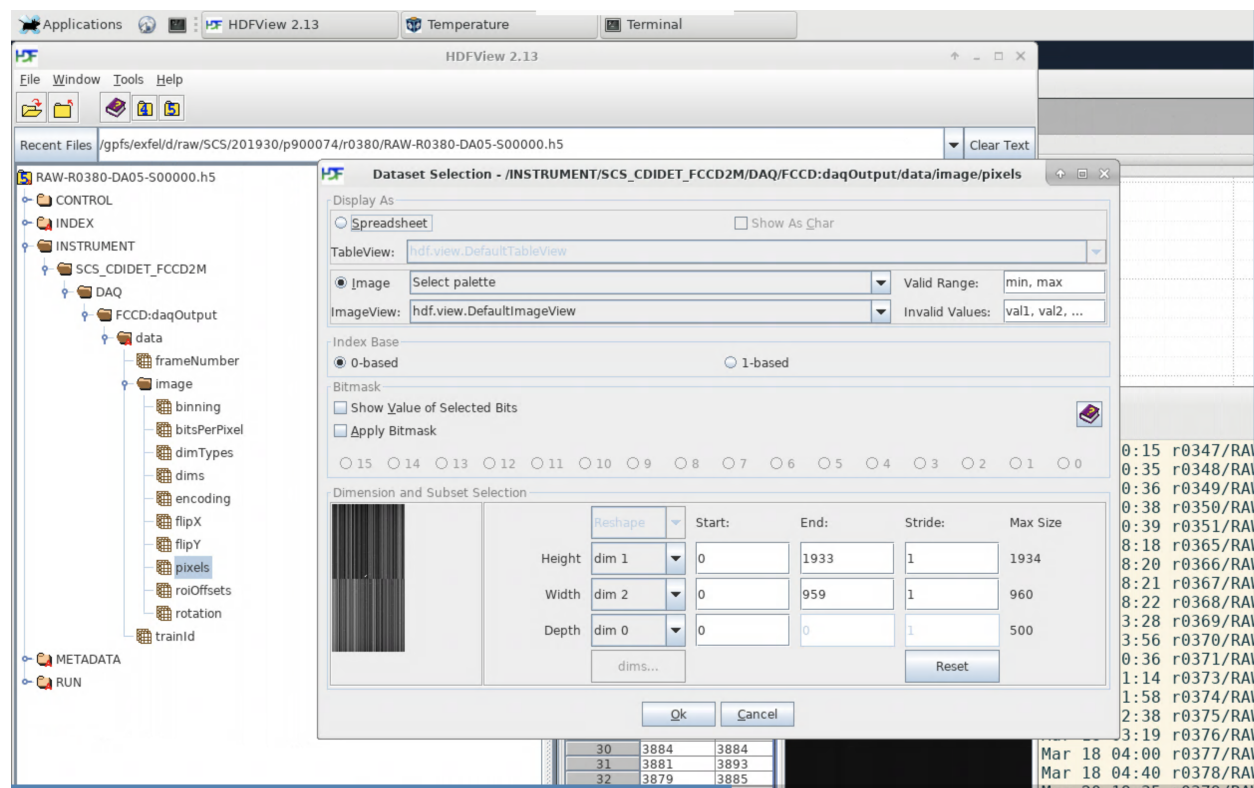

Fig. 4.3: Configuring hdfviewer to show the raw image data.
1. those starting with CORR contain offset and relative gain corrected data in the “pixels” array (see Figure 4.3). These files process quite quickly.
7. Browse to the following array to see the raw image data: `/INSTRUMENT/SCS_CDIDET_FCCD2M/DAQ/FCCD:daqOutput/data/image/pixel` (see Fig. 4.3)